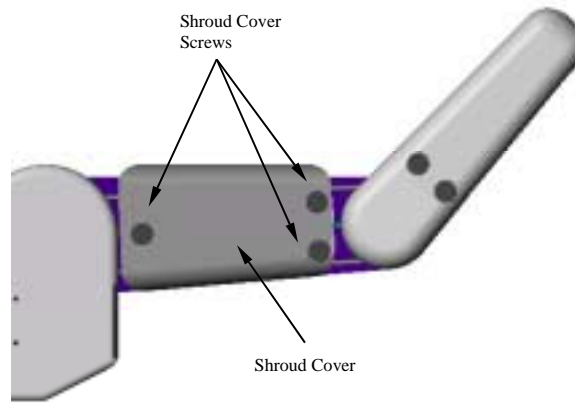

Figure 16 - Shroud Removal
3. Remove the Shroud Cover screws shown in Figure 16. Some models of the BarrettHand™ will have four Shroud Cover screws. Remove the Shroud from the finger link.
1. The finger cable is broken. Verify this by removing the Shroud Cover, see Figure 16, and inspecting the cable. The cable should be intact and not broken. If the cable is broken, contact Barrett Technology.
2. The finger cable is broken. Verify this by removing the Shroud Cover, see Figure 16, and inspecting the cable. The cable should be intact and not broken. If the cable is broken, contact Barrett Technology.